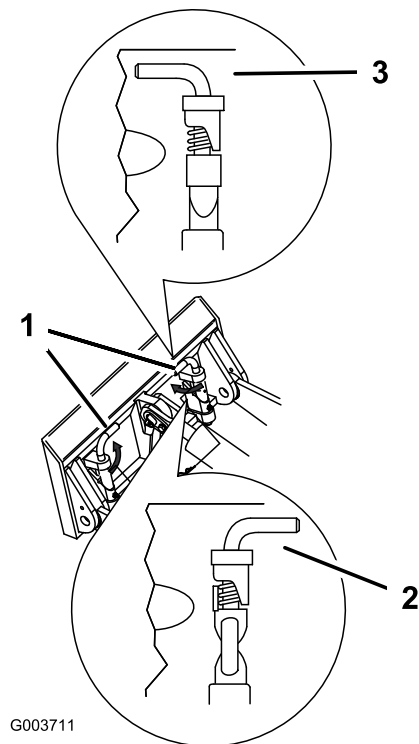

Figure 15
7. Engage the quick attach pins, ensuring that they are fully seated in the mount plate (Figure 15).